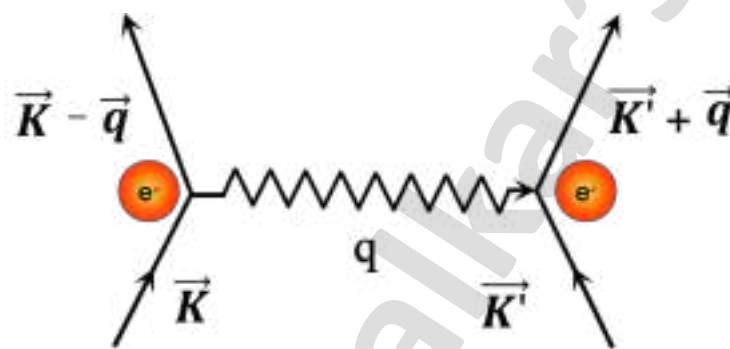

Fig. 4: Feynman diagram
- Fig. 4 shows a Feynman diagram which visually represents the indirect attractive interaction between two electrons mediated by a phonon. This interaction is key to the formation of Cooper pairs in superconductors.